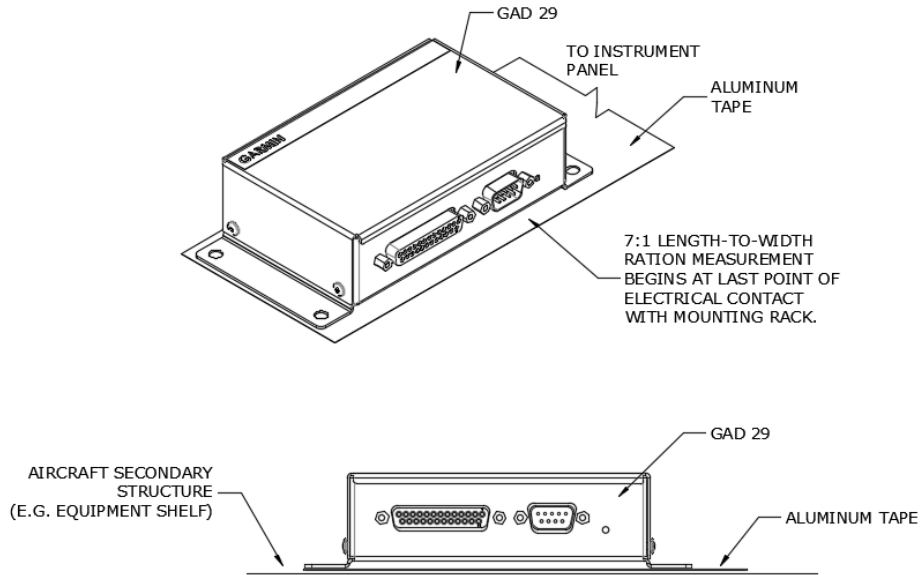

Figure 4-62 GAD 29/29B Aluminum Tape Installation (GAD 13 similar)
15. Secure the aluminum tape to the GAD 29/29B, GAD 13, or mounting rack as shown in Figure 4-62.